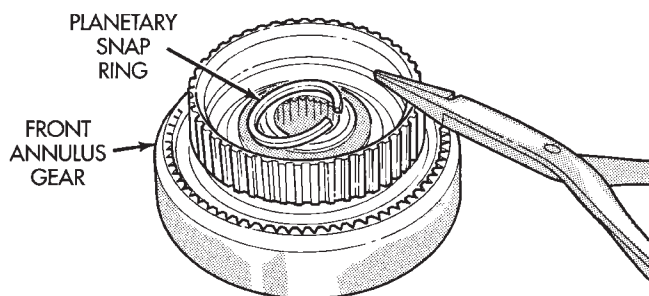

Fig. 163 Front Planetary Snap Ring Removal
- (3) Remove snap ring that retains front planetary gear in annulus gear (Fig. 163).